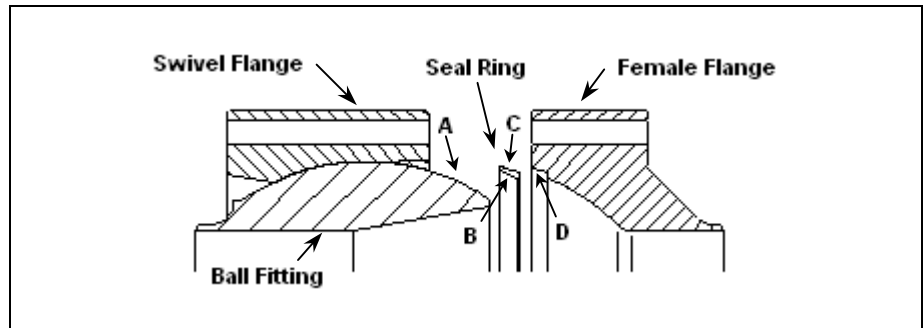

FIGURE 1-1
This procedure discusses about the Repair Of Minor Damage To Seal Surfaces. First, contact Taper-Lok for evaluation of any damage to the sealing surfaces. The sealing surfaces for Misalignment Flange are shown in Figure 1-1, for Swivel Flange in 1-2, and Weld Neck Flange in 1-3 below respectively. NOTE: The following procedure is for informational purposes only. Please do not perform any actions of repair till Taper-Lok is contacted.
The following is the procedure for repairing minor damage to sealing surfaces and corners (shown in Figures 1-1, 1-2, & 1-3 above) of Male Seal Surface (A), Seal Ring ID Seal Surface (B), Seal Ring OD Seal Surface (C), and Female Seal Surface (D), where damage marks are (3/16") or less in length.